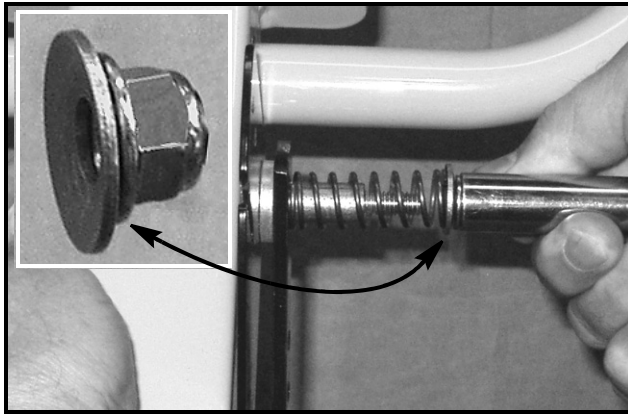

FIGURE 7
16. Using a 1/2" deep socket and ratchet, set the new 5/16"-18 Flange Lock Nut (Item 9) into the socket. Place the new Bell Washer (Item 6) on the nut as shown in Figure 7.